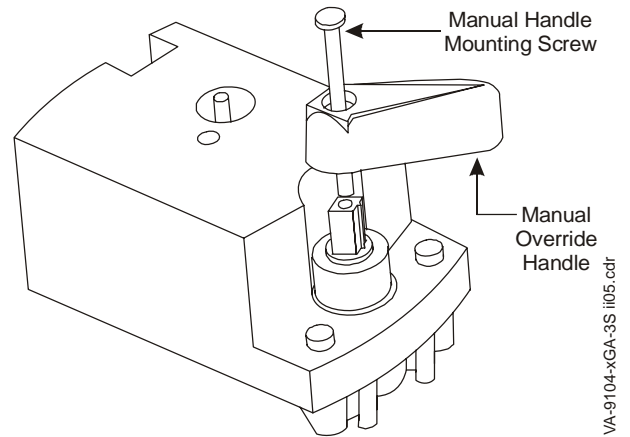

Figure 5: Installing the Handle
- Place the handle on top of the drive shaft as shown in Figure 5. The handle is keyed and can only be mounted in one orientation.
- verify that the valve fully opens and closes, using the gear release button on the actuator and the manual override handle, shown in Figure 5